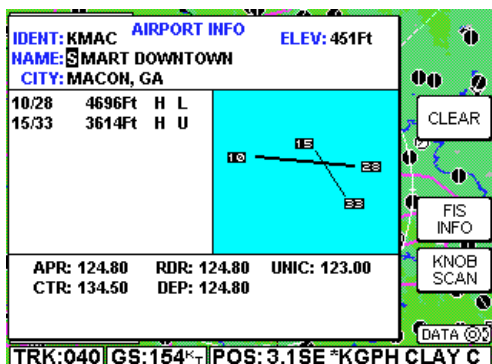

Figure 9
2. Turn the outer knob clockwise to select the first character in the name field as shown in Figure 9.